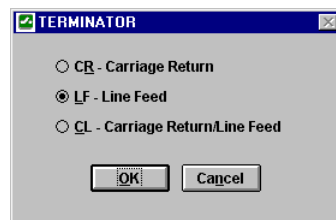

Figure 58 Terminator Window
7. Click the **Terminator** button to open the TERMINATOR window (Figure 58).